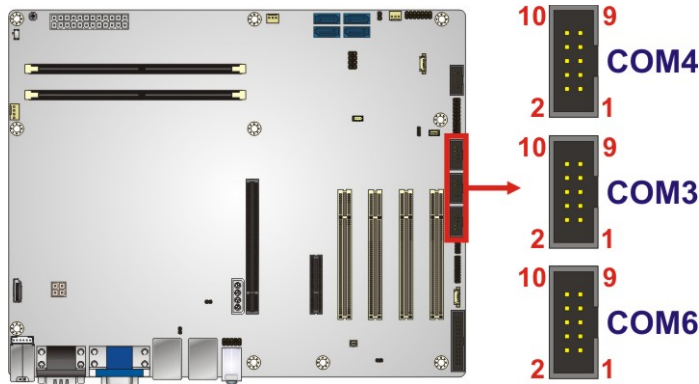

Figure 3-23: RS-232 Serial Port Connector Locations
- CN Location:** See **Figure 3-23**